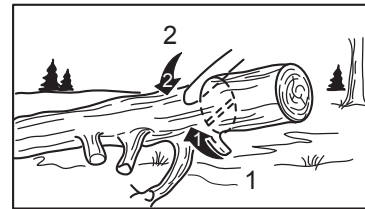

FIG. 5
2. Trunk supported only on one end: First cut from below for $\frac{1}{3}$ of the trunk and then from the top down until the previous cut has been reached. (Fig 5).